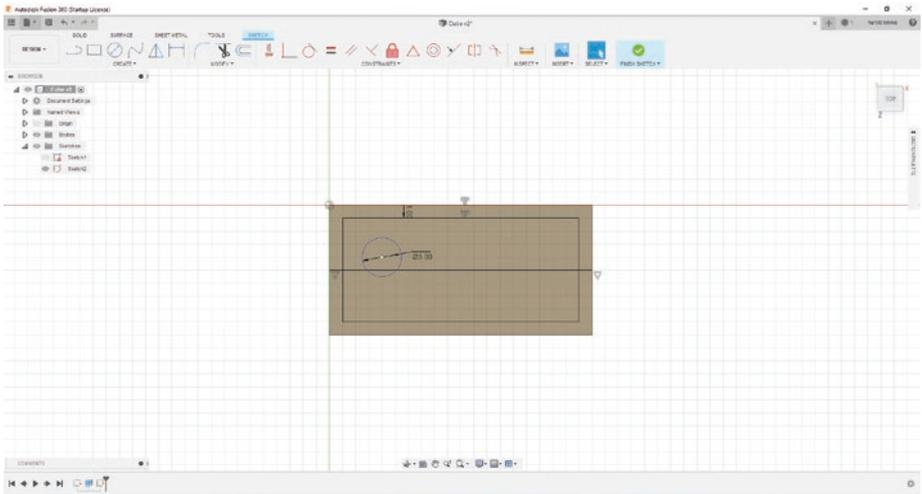

Figure 3-65. Find the horizontal center of the rectangle
- Let's make some construction lines, so that we know where the center of this rectangle is. First, select the Line function from the "CREATE" menu or press the "L" key, and place a line from one side of the rectangle to the other side. You will see this symbol  when you have selected the center for an edge; once you see that, left-click and move to the other side and left-click again. See Figure 3-65.